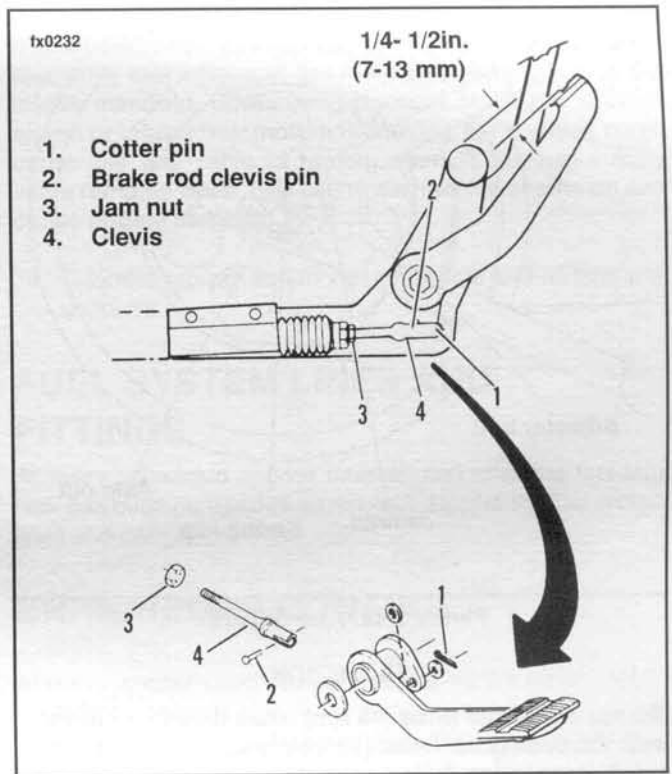

Figure 1-10. Rear Brake Pedal Adjustment
See Figure 1-10. Remove cotter pin (1) and remove brake rod clevis pin (2). Loosen jam nut (3). Turn clevis (4) in or out to obtain a pedal to footrest relationship of 1/4-1/2 in. (7-13 mm). Install brake rod clevis pin (2) and a new cotter pin (1).